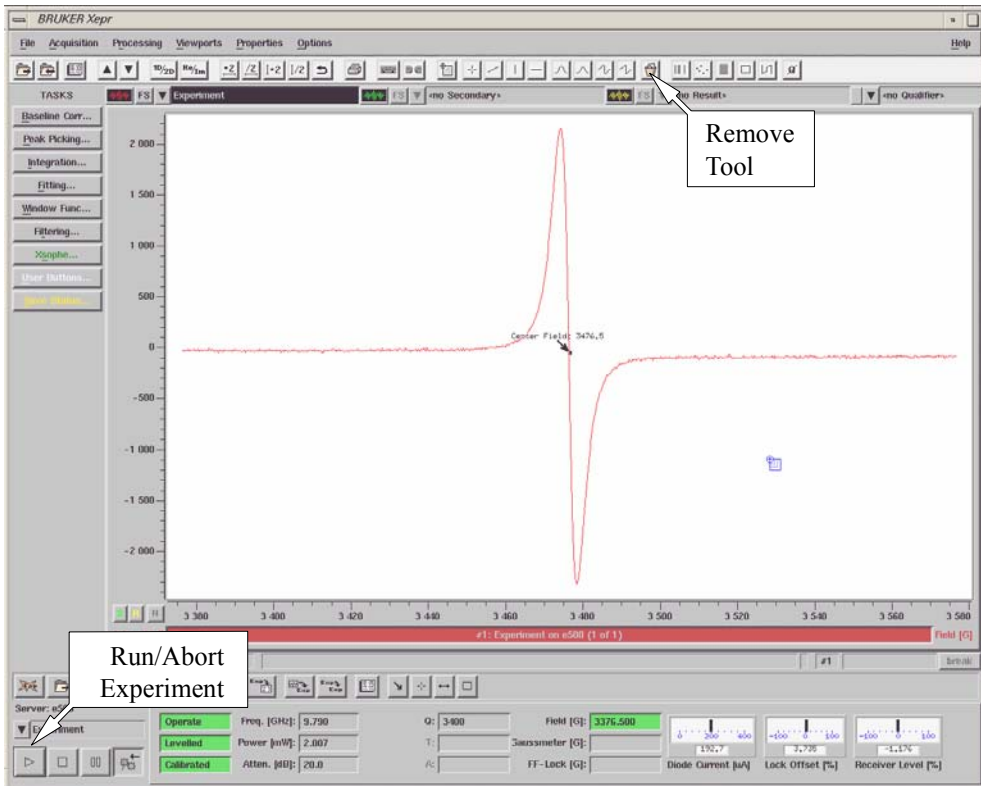

Figure 3-23 The centered spectrum.
This action replaces the center field value with the magnetic field position of the marker. To acquire the spectrum with the new center field, click the RUN button in the monitoring panel. The newly acquired spectrum will then be nicely centered. (See Figure 3-23.)
12. **Remove the center marker.** You may remove the center marker by clicking the Remove Tool button in the tool bar. (See Figure 3-23.) The Remove Tool function removes the current active tool.